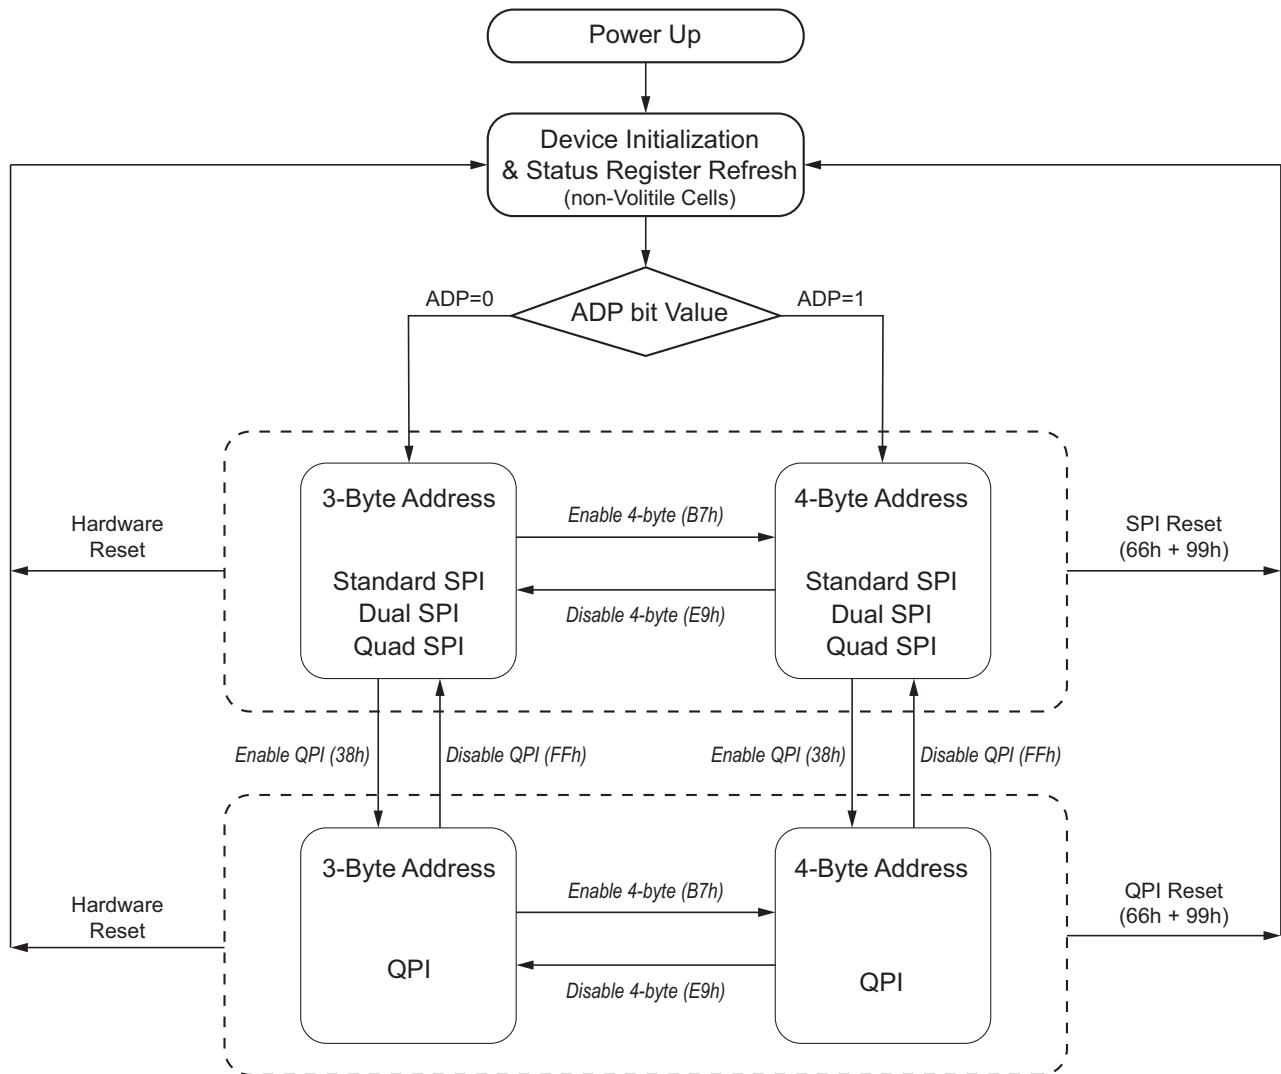

Figure 5. Device Operation Modes
The AT25SL2561C / AT25QL2561C supports Quad Peripheral Interface (QPI) operations only when the device is switched from Standard/Dual/Quad SPI mode to QPI mode using the “Enter QPI (38h)” command. The typical SPI protocol requires that the byte-long command code being shifted into the device only via SI pin in eight serial clocks. The QPI mode utilizes all four IO pins to input the command code, thus only two serial clocks are required. Standard/Dual/Quad SPI mode and QPI mode are exclusive. Only one mode can be active at any given time. “Enter QPI (38h)” and “Exit QPI (FFh)” commands are used to switch between these two modes. Upon power-up or after a software reset using “Reset (99h)” command or Hardware Reset, the default state of the device is Standard/Dual/Quad SPI mode. To enable QPI mode, the non-volatile Quad Enable bit (QE) in Status Register-2 is required to be set. When using QPI commands, the SI and SO pins become bidirectional IO0 and IO1, and the WP and HOLD pins become IO2 and IO3 respectively. See Figure 5 for the device operation modes.